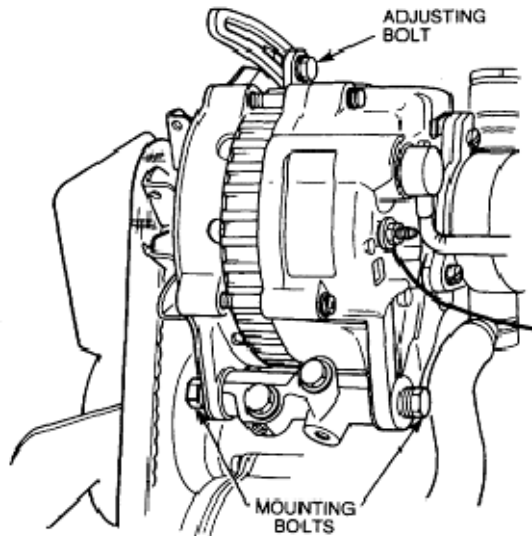

Figure 17 Fanbelt Replacement
- a. Loosen the alternator mounting bolts and the adjusting bolt (Figure 17).